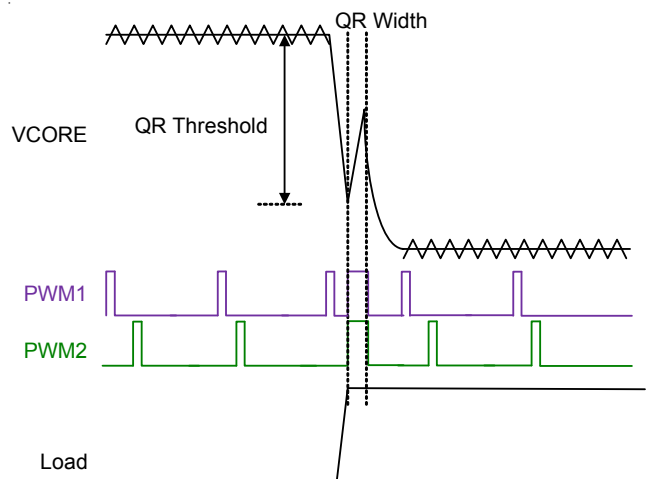
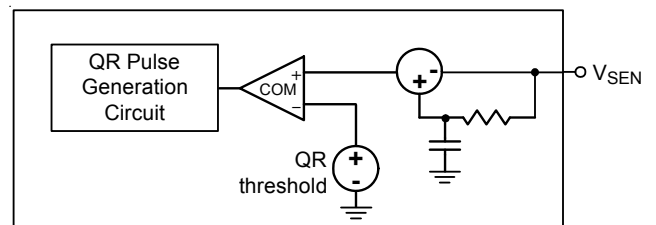

Figure 21. Quick Response Mechanism
Figure 22. Simplified QR Trigger schematic
When the transient load step-up becomes quite large, it is difficult for loop response to meet the energy transfer. Hence, that output voltage generate undershoot to fail specification. The RT3601EA has Quick Response (QR) mechanism being able to improve this issue. It adopts a nonlinear control mechanism which can disable interleaving function and simultaneously turn on all UGATE one pulse at instantaneous step-up transient load to restrain the output voltage drooping. Figure 21 shows the QR behavior.
The output voltage signal behavior needs to be detected so that QR mechanism can be triggered. The output voltage signal is via a remote sense line to connect at the VSEN pin which is shown in Figure 22. The QR mechanism needs to set QR width and QR threshold. Both definitions are shown in Figure 21. A proper QR mechanism set can meet different applications. The SET3 pin can set QR threshold and QR width by an external voltage divider with the multi-function mechanism. Table 6 shows the QR\_TH and QR\_WIDTH on the SET3 pin.